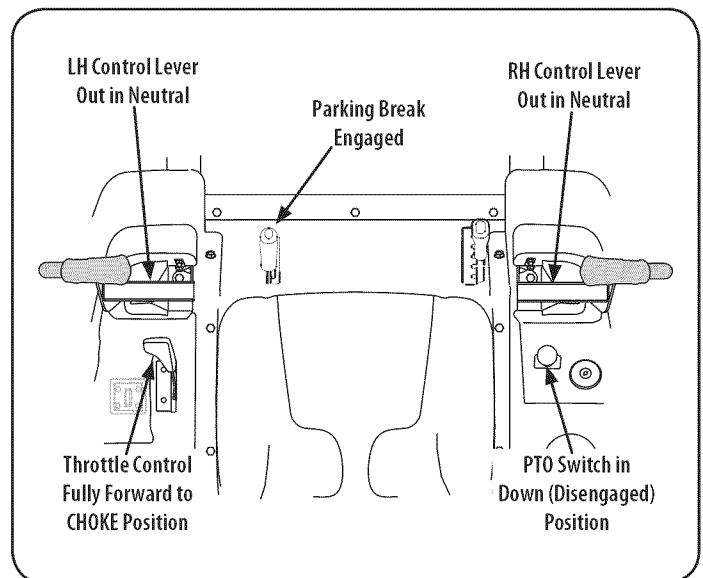

Figure 13
2. Engage the parking brake. Refer to Figure 13.
3. Make certain the PTO switch is in the disengaged (down) position. Refer to Figure 13.